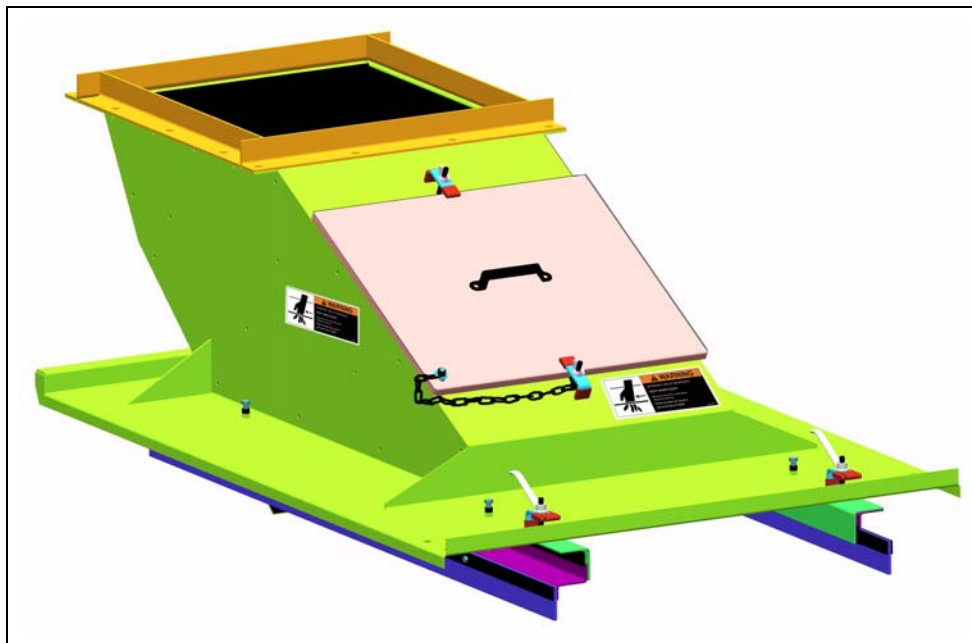

Figure 4I Fixed Skirt Loader
1. The fixed skirt loader always attaches at the tail end so no cover modifications should be necessary. The soft rubber skirts are adjustable and can be set to lightly touch the conveyor belt. (See Figure 4I.)